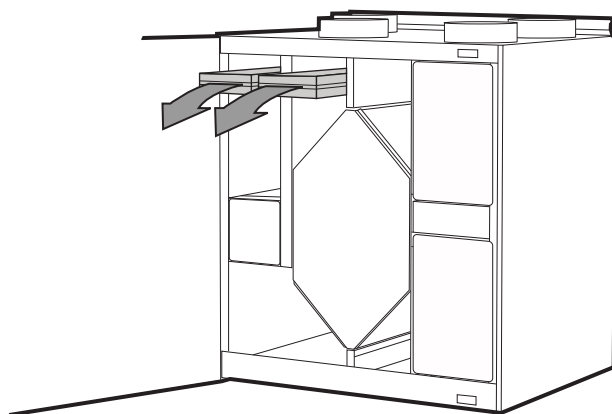

Fig. 6 Changing of filters
1. Change filters as shown in below illustration (figure 6).